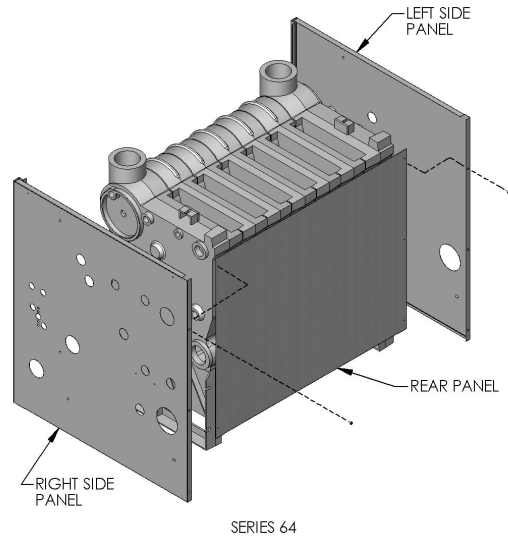

Figure 2.5: Jacket Assembly, Series 64™ Boilers
4. **Back Panel Jacket:** Position the back jacket panel inside the flange of the side jacket panels and attach it with six #10 x 1/2" sheet metal screws. See Figure 2.5.